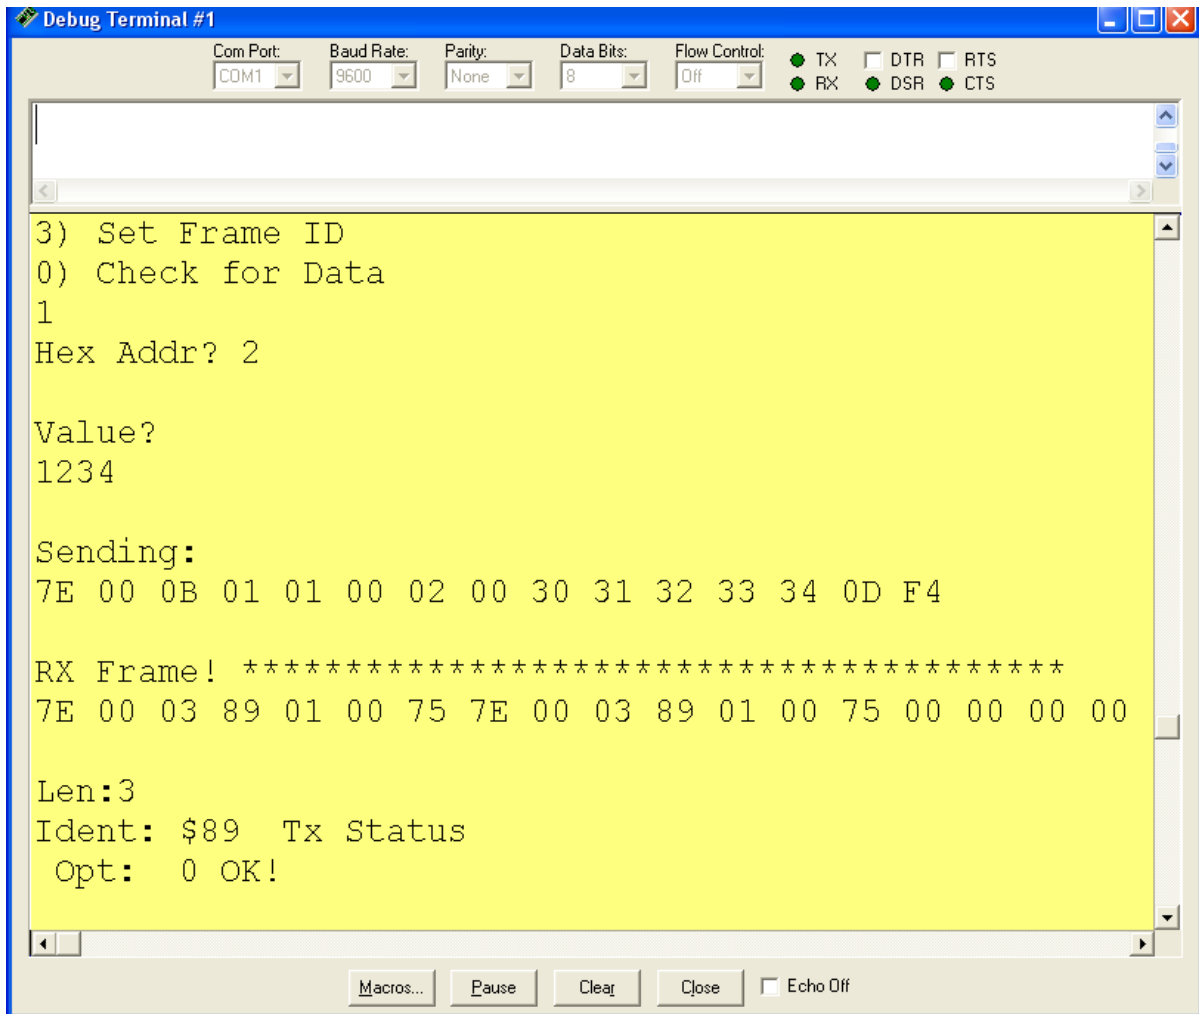

Figure 6-12: API_Base Sending Value with Response
- ✓ On the Base, you should see the framed data that was sent, and a reply frame similar to Figure 6-12.